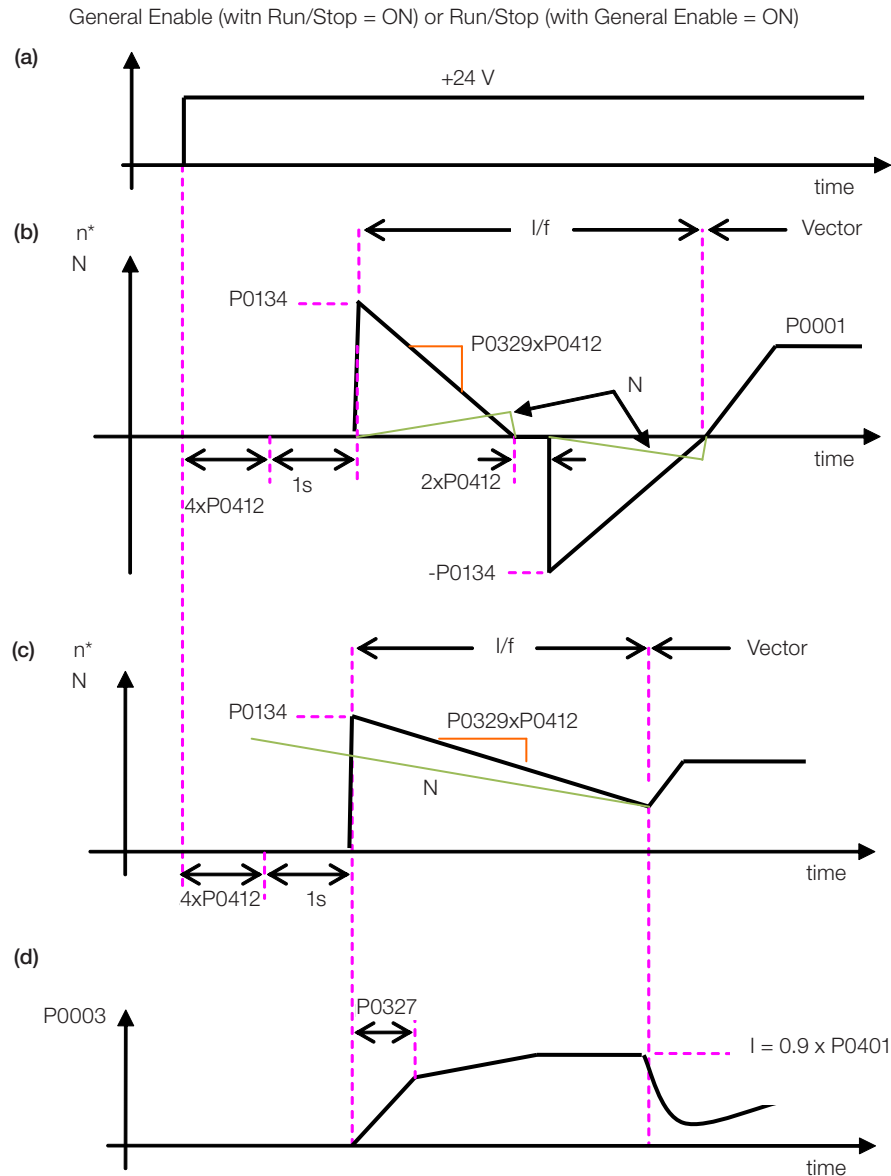

Figure 12.4 (a) to (d): Influence of P0327 and P0329 during Flying Start (P0202 = 4)
The behavior of the Flying Start function (FS) in the sensorless mode during acceleration and reacceleration can be understood from the figure 12.4.
The figure 12.4 \(b\) shows the behavior of the speed reference when the FS function is started with stopped motor shaft and small P0329 value (not optimized).
The figure 12.4 \(c\) shows the speed reference when the FS function is initiated with the motor shaft already running in the desired direction, or with stopped shaft and an already optimized P0329.